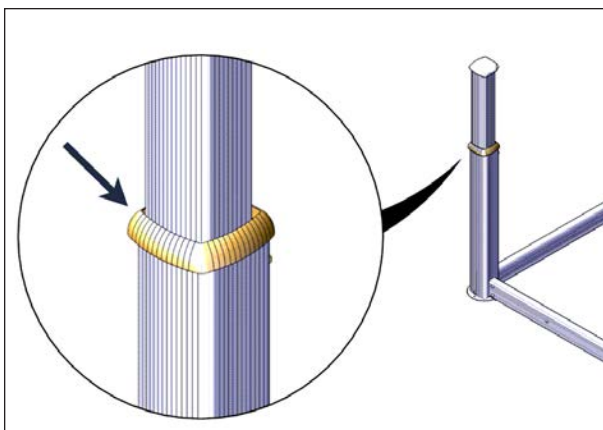

FIGURE 60: SLEEVE SEAL INSTALLATION
21. Make sure the sleeve seal on each post is slid all the way down against the top of the outer sleeve see Figure 60.